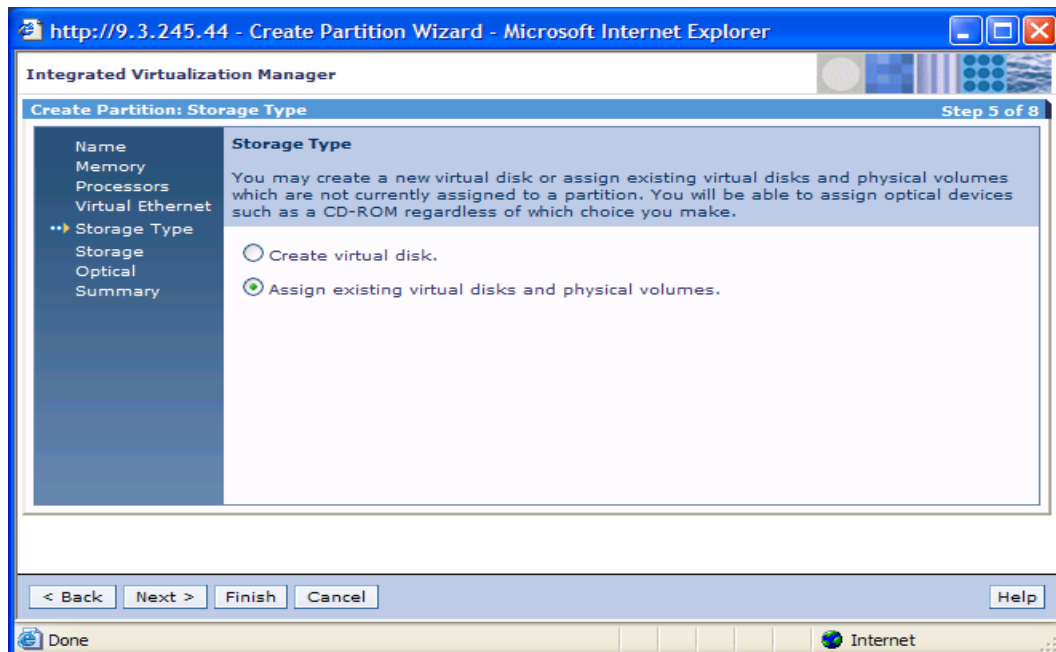

Figure 53. Assigning existing virtual disks and physical volumes
- From the Storage Type screen, select **Assign existing virtual disks and physical volumes** (see Figure 53). Click **Next**.